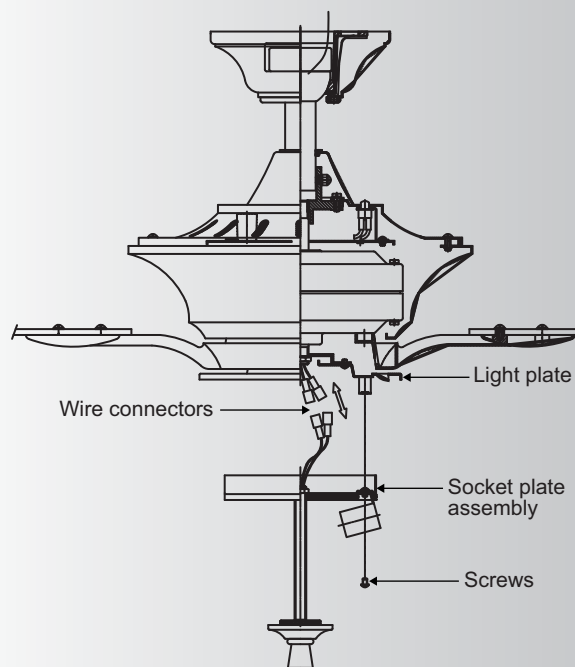

Fig. 19
Hold the socket plate close to the light plate and connect the white wires from the socket plate assembly and the fan by pushing the connectors together. Follow the same procedure with the black wire connectors. (Fig. 19)
Step 2. Tuck the connections neatly into the light plate. Place the key holes on the socket plate assembly over the 2 screws previously loosened from the light plate, turn the socket plate assembly until it locks in place at the narrow section of the key holes. Secure by tightening all three screws. (Fig. 19)